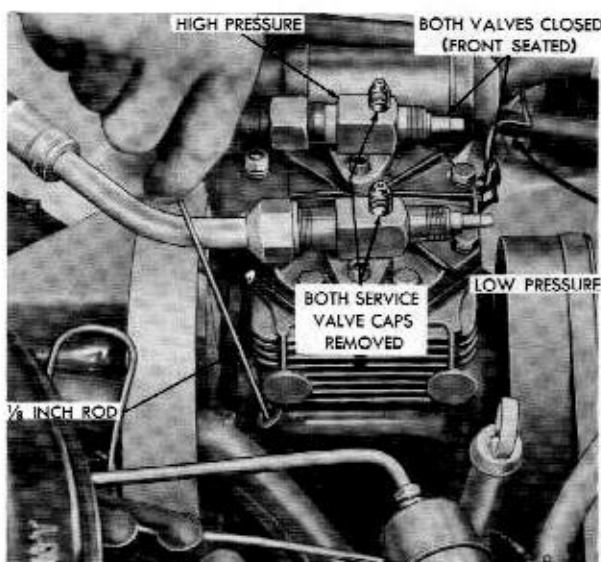

Fig. 8-1—Checking Compressor Oil Level
3. Remove the oil filler plug and insert a clean $\frac{1}{8}$ inch steel rod until it bottoms, (it may be necessary to rotate the compressor shaft to permit the rod to bottom). The oil level should be within specifications above the bottom of the rod. (See figure 8-1.)